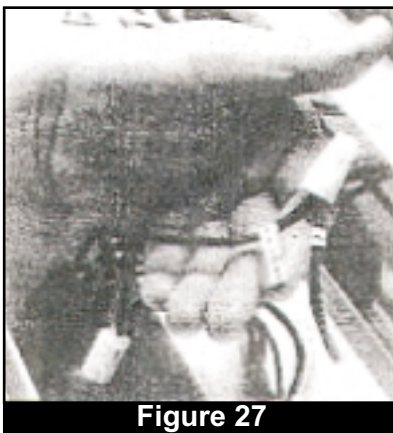

Figure 27
2. Mark all the wires connected to the thermostat with a color code or number to make proper re-connection easy. (Fig. 27)